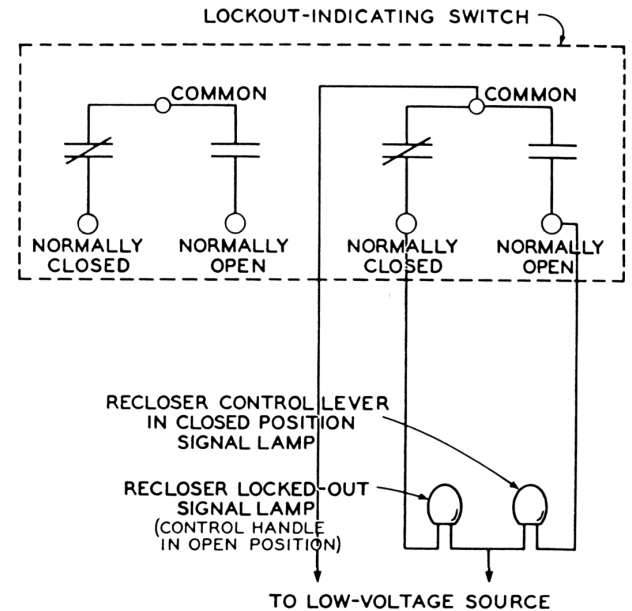
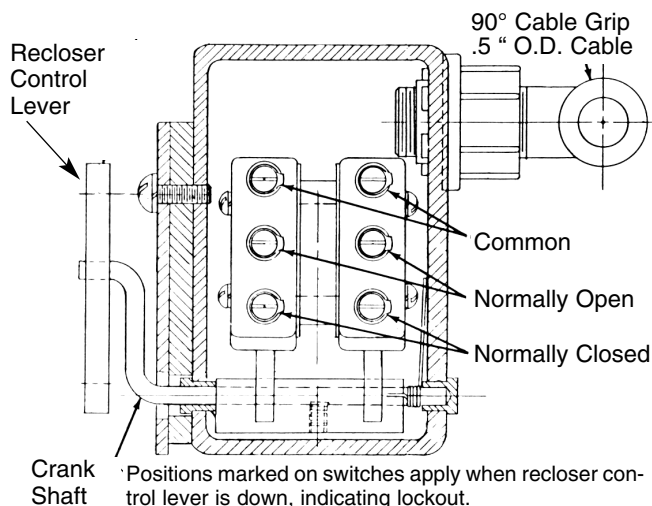

Figure 3.
Figure 4.
6. Connect switch as shown in Figure 3.
Connections between the switch and the signalling device are made by a rubber-covered cable or conductors protected by 1/2 inch conduit. A weatherproof cable grip is provided to secure cables that are 5/8 – 3/4 inch in diameter. If conduit is used, discard the cable grip and install conduit into the fitting. See Figure 3 for a schematic diagram of a typical signal circuit employing the lockout-indicating switch. Connections can be easily made to the terminals marked “common”, “normally open”, and “normally closed”; refer to Figure 4.